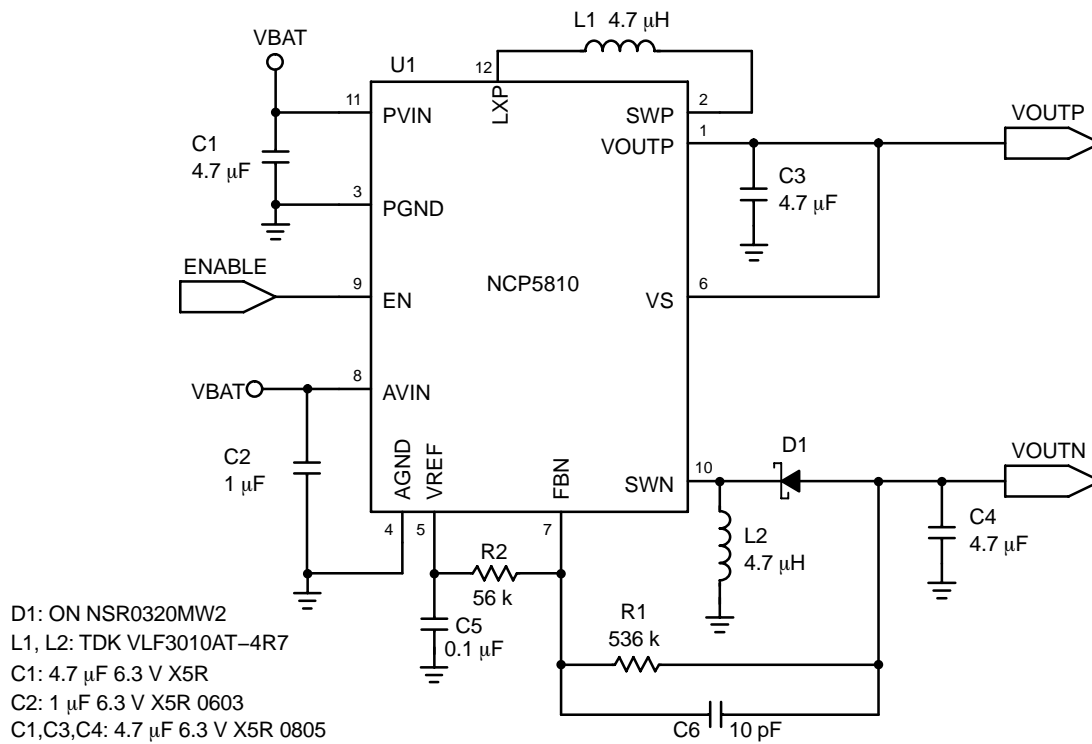

Figure 1. Typical Application Circuit
10. Typical application circuit and components depicted Figure 1.